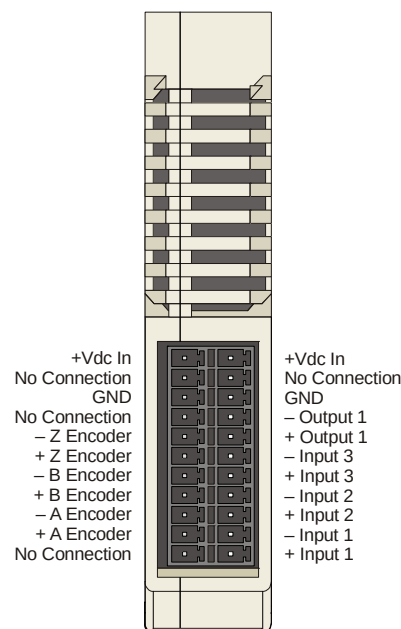

Figure 1.2 I/O Connector
As shown in figure 1.2, the I/O connector is located on the top of the module. All digital I/O connections are made at this connector as well as the power supply connections. The mating connector is not supplied with the ANG1(E) and is available from AMCI under the part number MS-2X11. It is also available from Phoenix Contact under their part number 173 88 98.